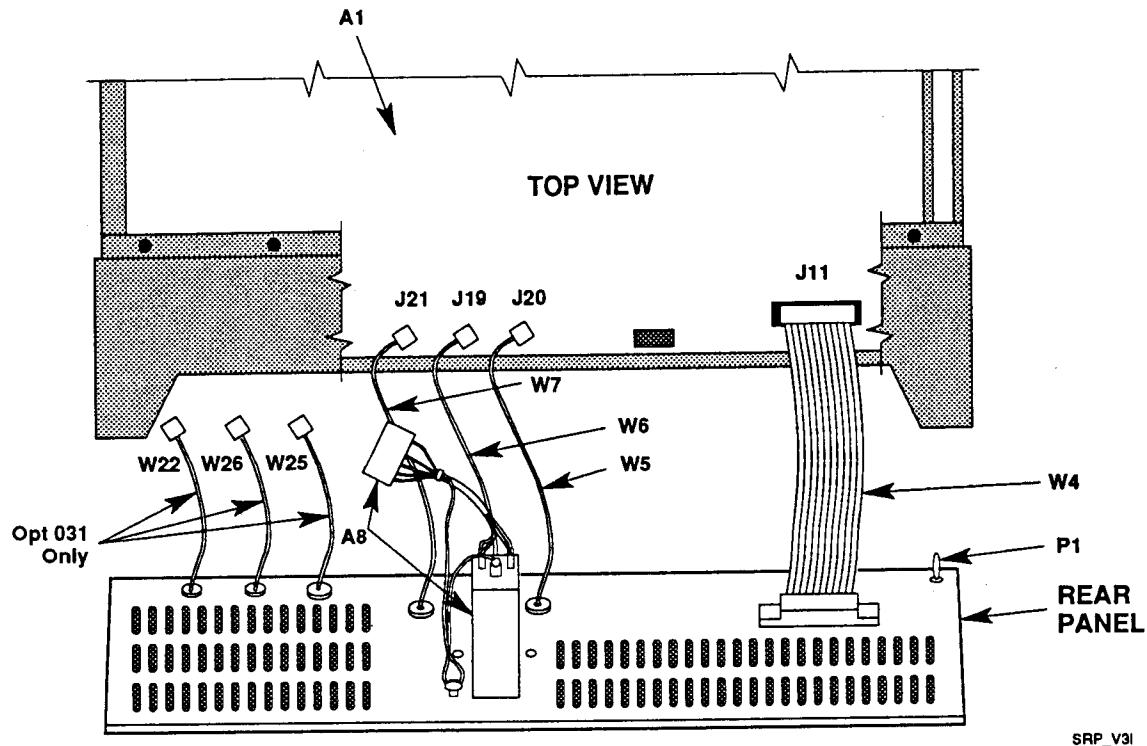

Figure 7-1. Standard Rear Panel Replacement
- c. Pull the rear panel about three inches away from the instrument. (See *Figure 7-1* on page 7-6).
- e. Remove the Ext. Ref. In, Reference Out, and Test Limit Output cables (W5, W6, and W7, respectively). These cables are shown in *Figure 7-1*.